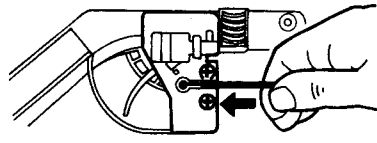

FIG 40
2. To replace throttle cable, reverse above procedure. Outer cable must be oushed fully in before screwing down cover screws (Fig 40)
1. Remove throttle cable (Fig 40, page 16), unclip switch wire from motor.